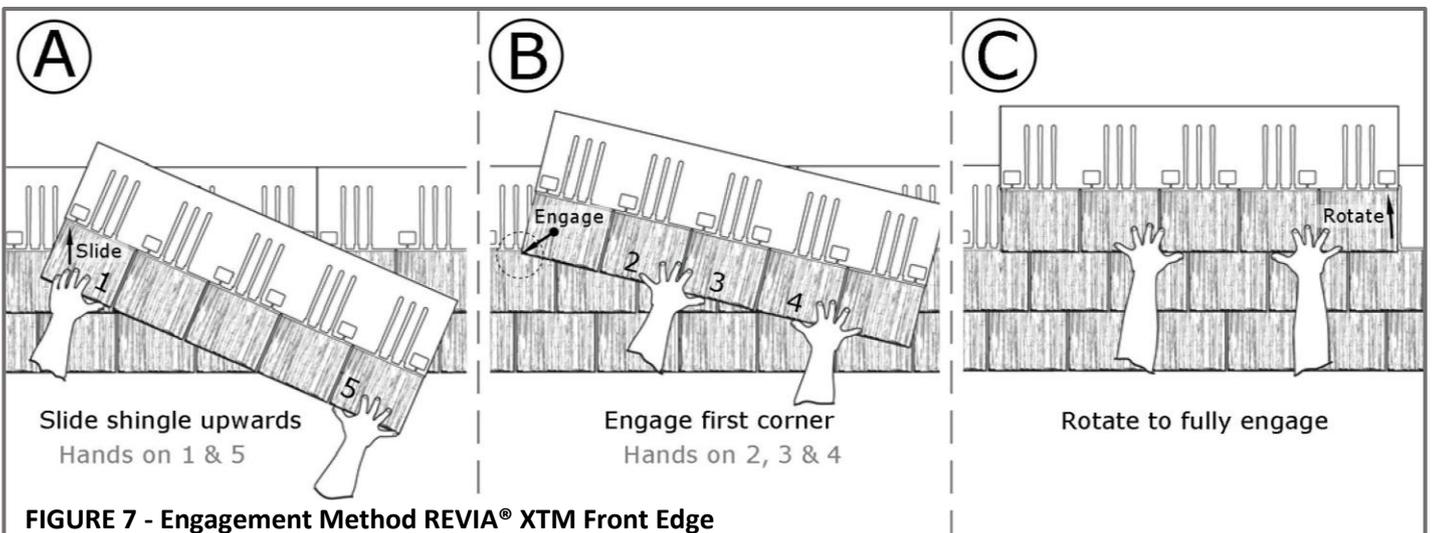

FIGURE 7 - Engagement Method REVIA® XTM Front Edge
- Engage Course #1 Front Edge Lock into starter Nail Line Lock using the same method used for subsequent courses. Follow Steps A, B and C. See **Figure 7**.